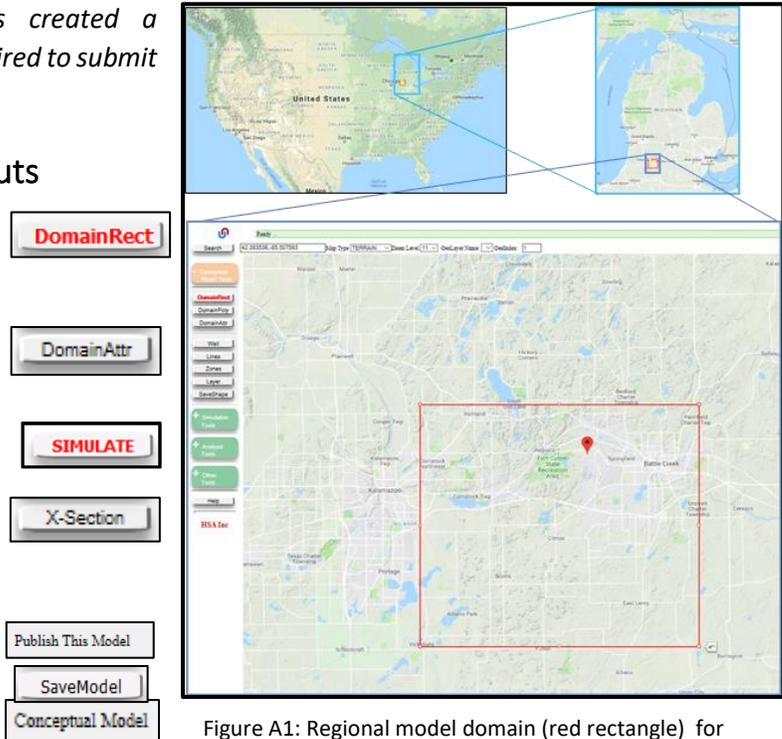

Figure A1: Regional model domain (red rectangle) for the area of interest: Fort Custer State Recreation Area near Kalamazoo, Michigan, U.S.A
- Step 1 – Zoom to the area of interest and delineate regional model domain (Figure A1).